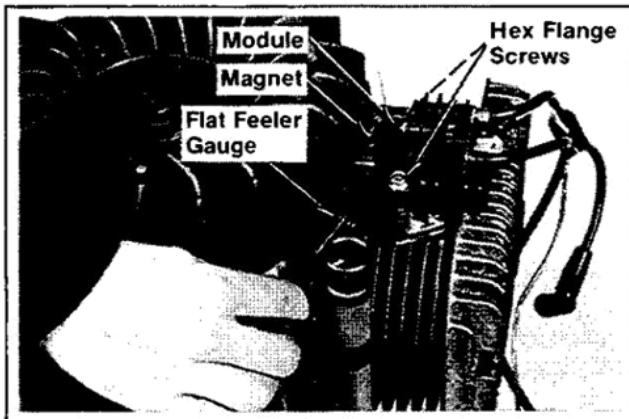

Figure 11-41. Installing Ignition Module.
3. Align the magnet on flywheel with the module. Insert a .014" flat feeler gauge or shim stock between magnet and module. Loosen the hex flange screws so magnet pulls the module against feeler gauge. Refer to Figure 11-41. Tighten the hex flange screws securely. Remove the feeler gauge or shim stock. Due to the pull of the magnet, the magnet-to-module air gap should be within the final range of **.008"/.012"**.